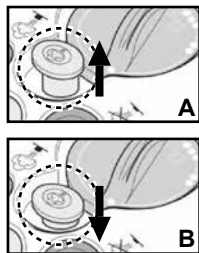

FIGURE 4
**IMPORTANT:** Make sure Steam Button is locked in lowered position (FIGURE 4-B) before dry ironing. This will prevent any water from accidentally dripping.
3. When Heating Indicator Light turns off, press Steam Button. Button will lock into raised position (FIGURE 4-A), and unit will begin emitting steam from steam vents on Ironing Plate.
4. To stop steam flow, press Steam Button again to lock it into lowered position (FIGURE 4-B).